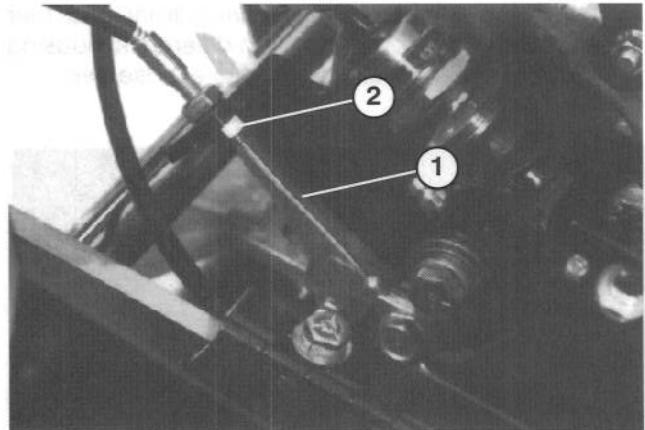

Figure 38
3. To increase cable tension, loosen front cable jam nut and tighten back cable jam nut (Fig. 38) until a force of 3–5 lbs. is required to engage traction control. Force to be measured at control knob.
3. To increase cable tension, loosen front cable jam nut and tighten back cable jam nut (Fig. 38) until a force of 3–5 lbs. is required to engage brake. Force to be measured at lever knob. Do not over adjust, so brake band drags.